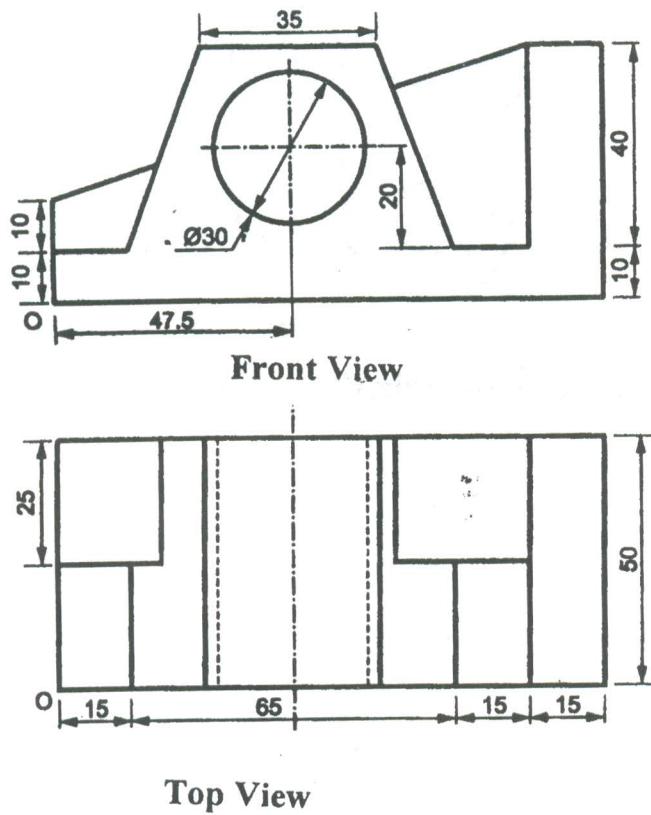

Fig. 5
7. Fig. 5 shows F.V. and T.V. of an object by First Angle Method of Projection.